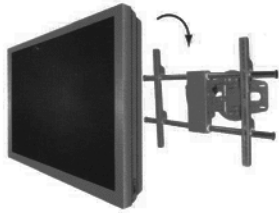

Fig. 4 - Carefully hook the display onto the wall plate.
- With the help of another person, carefully lift your display and place it on mount (see Fig. 4). Place the display in the middle of the mount, and do not release the display until the mounting arms have securely hooked onto the crossbars.